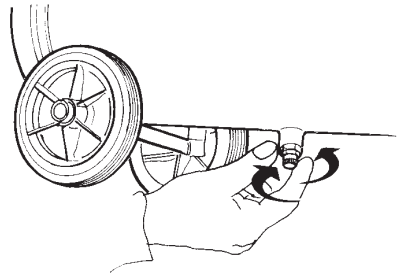

fig. 4
- check the condensation outflow tap (fig. 4);
- Remove the condensation outflow tap if pressure is in the tank (*fig. 4*).
Before carrying out any type of maintenance intervention, unplug the compressor and let the tank pressure out by opening the condensation outflow tap (*fig. 4*); unscrew the tap carefully and let the air out slowly, as metal residues might be in the tank.
#### Condensation outlet (*fig. 4*)
- empty all the air in the tank (*fig. 4*);
- let all the air out of the tank (*fig. 4*);